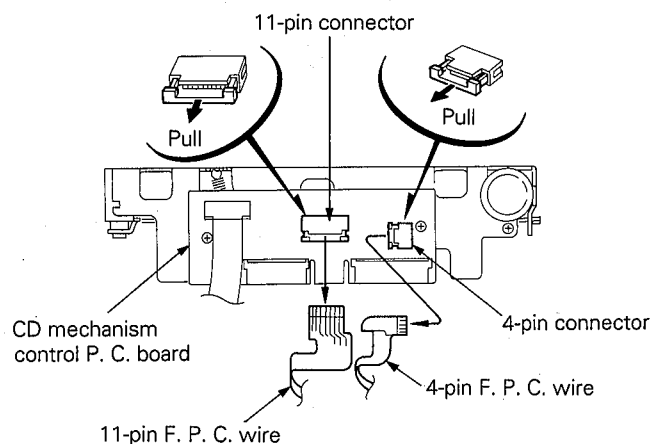
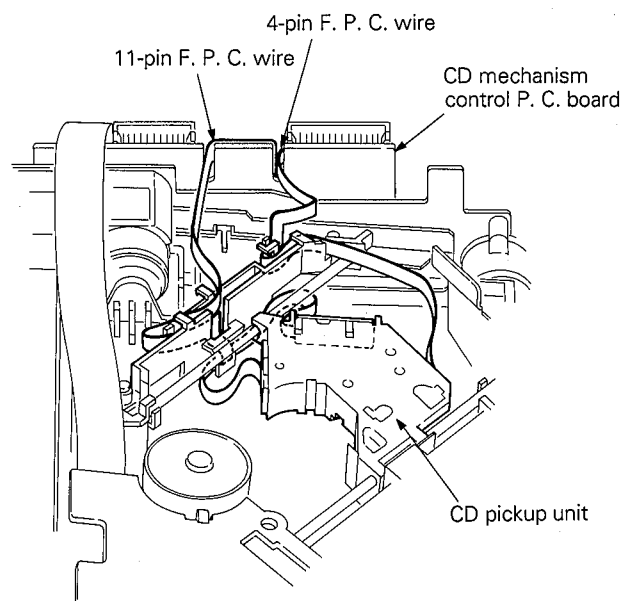

Fig. 6-8
Fig. 6-9
- 1) For disconnecting the 11-pin and 4-pin F. P. C. wires, first move the connector in the direction of the arrow shown in Fig. 6-8.
- 2) When reassembling, arrange the 11-pin and 4-pin F. P. C. wires as shown in Fig. 6-8 and Fig. 6-9.